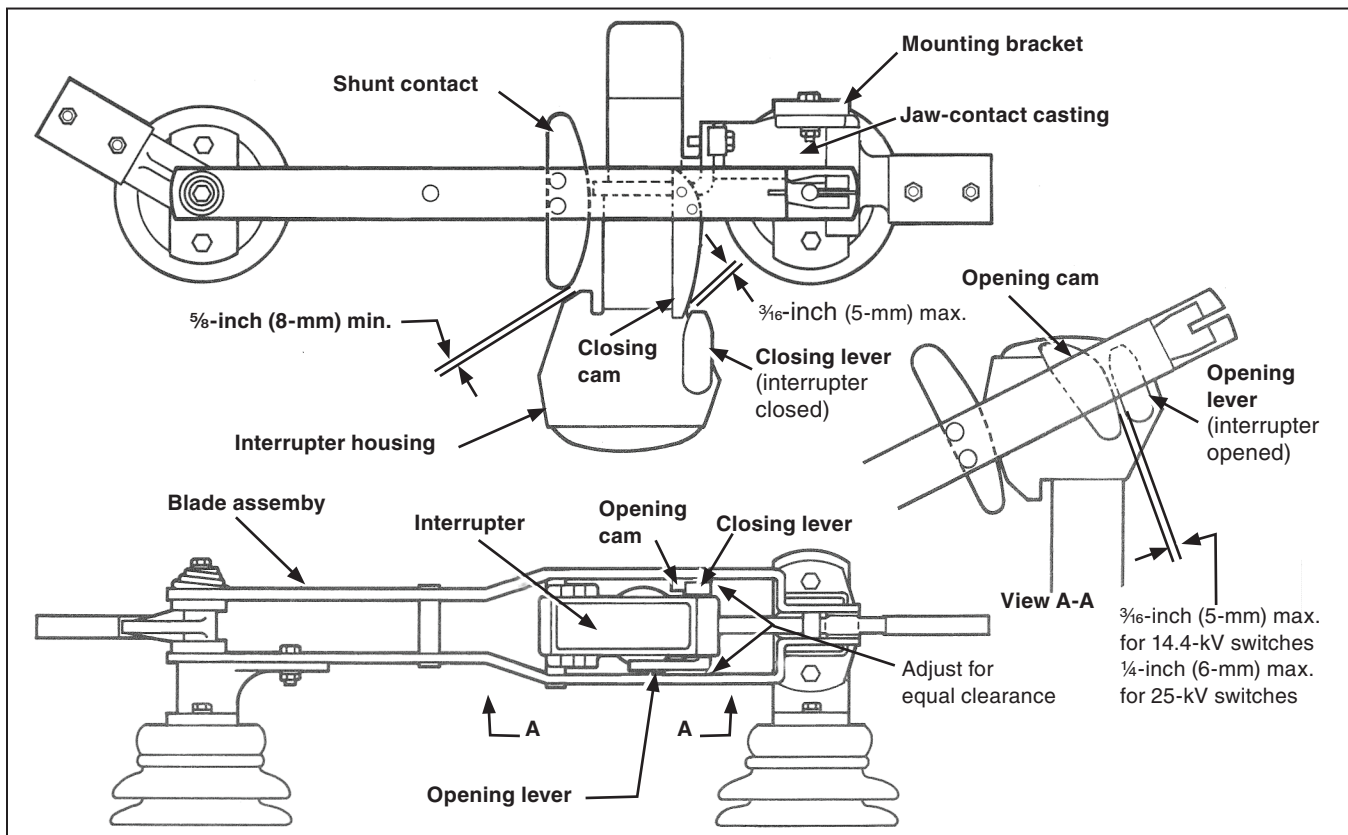

Figure 33. Operating checkpoints.
- As the blade moves in the closing direction, clearance between the blade-opening cam and the interrupter-opening lever must be within the limit shown in Figure 33, View A-A.
- In the fully **Closed** position, clearance between the blade-closing cam and the interrupter-closing lever must be within the limit shown in Figure 33. Also, the clearance between the blade shunt contact and the interrupter housing must be as shown in Figure 33.